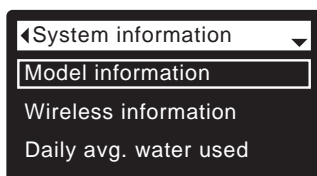

FIG. 63
3. Press the SELECT (O) button to display the System information menu (See Figure 63).
7. When finished viewing an information screen, press the SELECT (O) button. The display will go back to the System information menu (Figure 63). It will also exit automatically if no buttons are pressed for four minutes.